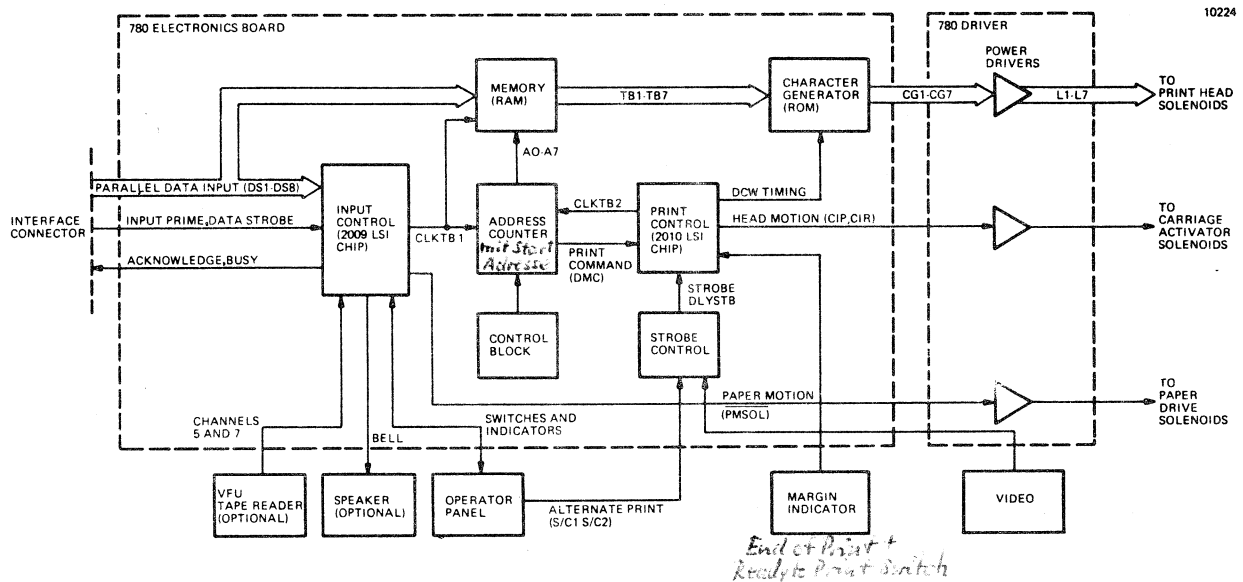

FIGURE 2-1. SIMPLIFIED BLOCK DIAGRAM, 780 ELECTRONICS
Each function is discussed at a subassembly level, supplemented with block diagrams showing signal flow between major subassemblies and the connector/pin locations of each signal. Figure 2-1 is a simplified block diagram of the overall printer electronics.
2.2 BLOCK DIAGRAM DISCUSSION (Figure 2-1)
The 780 printer electronics is contained on two printed circuit boards. As shown in Figure 2-1, printable data goes from left to right across the print head, with control of this data coming largely from the two LSI (Large Scale Integration) chips, the input control chip 2009 and print control chip 2010. When the printer is first turned on, the printer logic is initialized and the printer is in the deselected state. To receive data, the printer must then be selected by receiving a select code from the input device or by depressing the select switch on the operator panel.